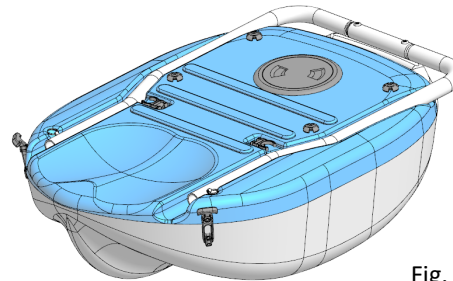
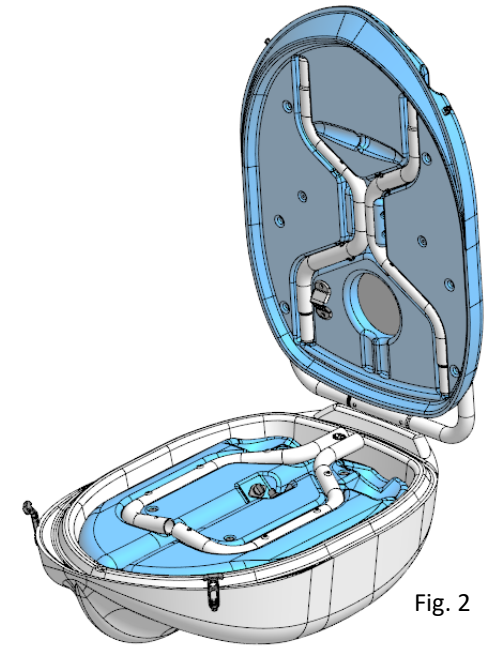

Fig. 1
Fig. 2
- 1) Unfasten the two T-handle draw latches (fig.1) and open the lid. (fig. 2)